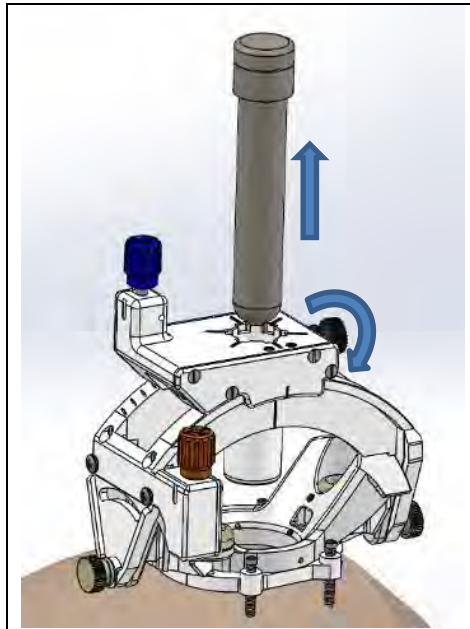

Figure 21: Removing the Targeting Stem from the SMARTFrame Array tower
10. Once the roll lock screws are secured, remove the Targeting Stem by unlocking the tower side thumb screw and pulling the stem out. **See Figure 21**.